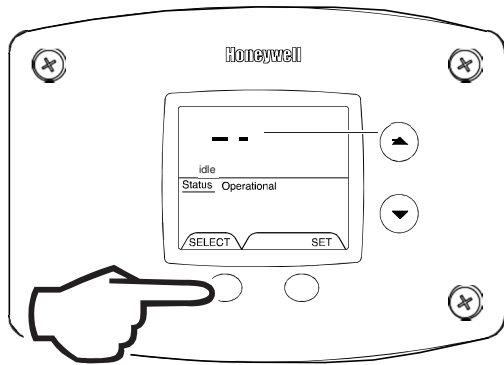

Fig. 38
- 8. Error Code History (Displays if there are present error codes or up to 10 previous error codes). Water Heater Display will show -- if there are no error codes (Fig. 38).